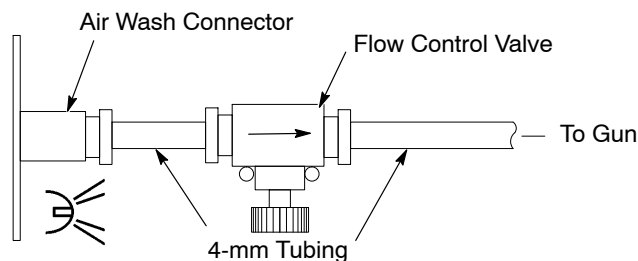

Figure 3-13 Flow Control Valve and Air Wash Tubing Connection
6. See Figure 3-13. Connect the 4-mm clear tubing and the flow control valve supplied with the system to the air wash connector on the rear panel as shown. The flow control valve can be located anywhere desired. Use a tubing cutter to make sure the tube ends are square.